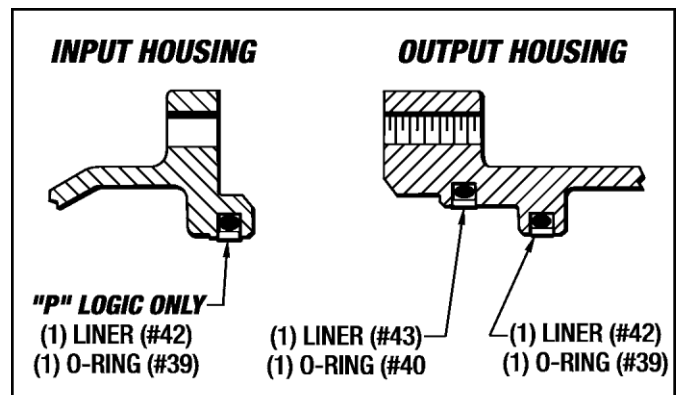

Figure 7.2 - Piston Liners and O-Rings
5. If the Piston Liners and O-Rings are to be replaced, they can be removed from the Piston Seal Grooves in the Input Housing (#8) and the Output Housing (#9). (See Figure 7.2)